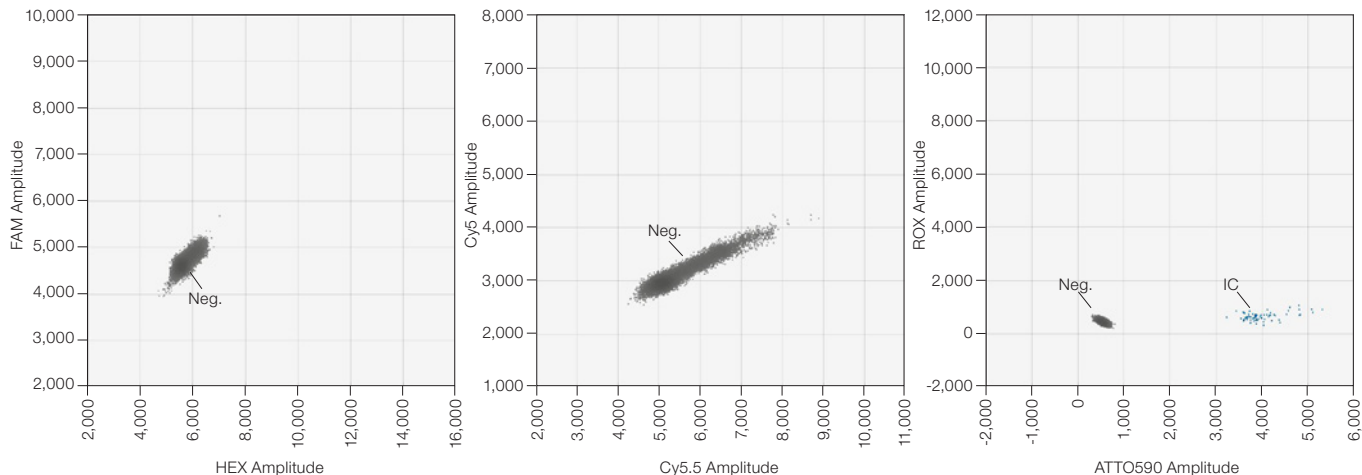

Fig. 11. 2-D plots for 1 well of no template control (NTC).
1. Examine the NTC wells to detect potential contamination. The ddPLEX Internal Control cluster will appear in the ATTO590 channel. Ideally, all other droplets should be classified as negative. Tolerance to positive droplets should be determined by the end-user. The recommended allowable range is 0–2 positive droplets per target. See Figure 11 for an example 2-D plot.